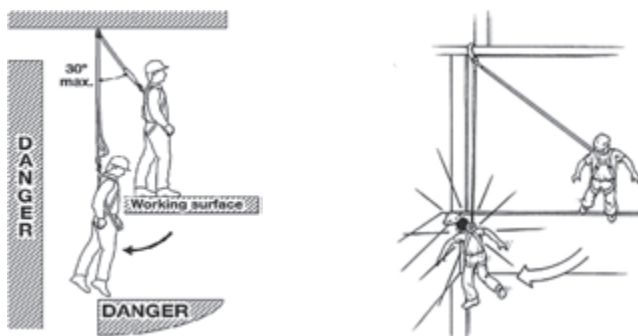

Figure 2
The mechanism in this device is activated by centrifugal force acting on the brakes. This action is produced by the inertia of a fall rapidly spinning the internal drum which in turn causes the brakes to lock and arrest the fall. Slow reeling of the line will not activate the brake. If the brake locks – due to a fall – the mechanism will reset if the load is removed. In a fall arrest situation the mechanism will limit the force acting on the body to less than 6kN. This device is designed to function vertically or at an angle of no more than 30° (see Figure 2).
2. Failure to comply with the instructions for use will result in a danger to life (Figure 2). In the event of a fall, the person must not be exposed to a prolonged state of hanging for longer than 20 minutes (danger of shock).